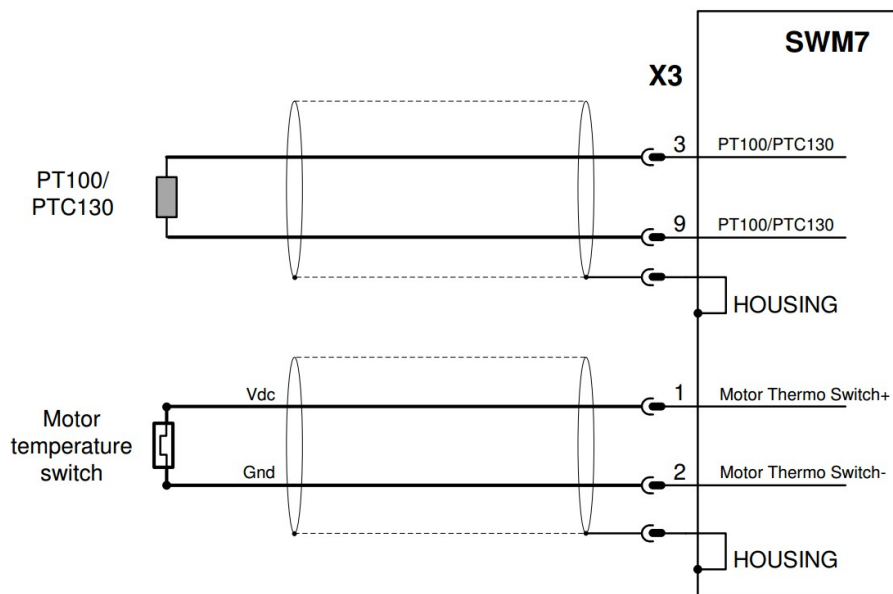
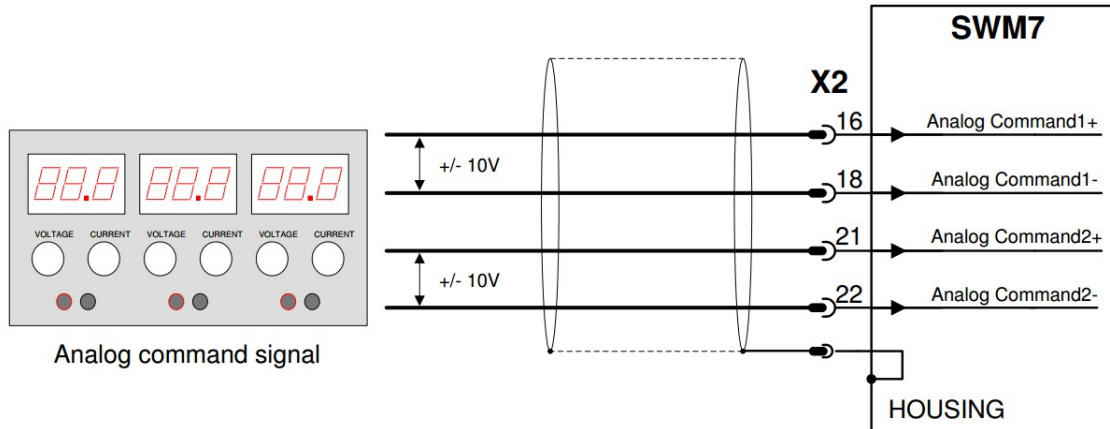

Figure 5.7: Temperature supervision (X3)
Figure 5.8: Command interface (X2)
- DC3 motor Fig. 5.7 on page page 40 and
- DC1 motor Fig. 5.8 on page 41.
- Fig. 5.7 and Fig. 5.8